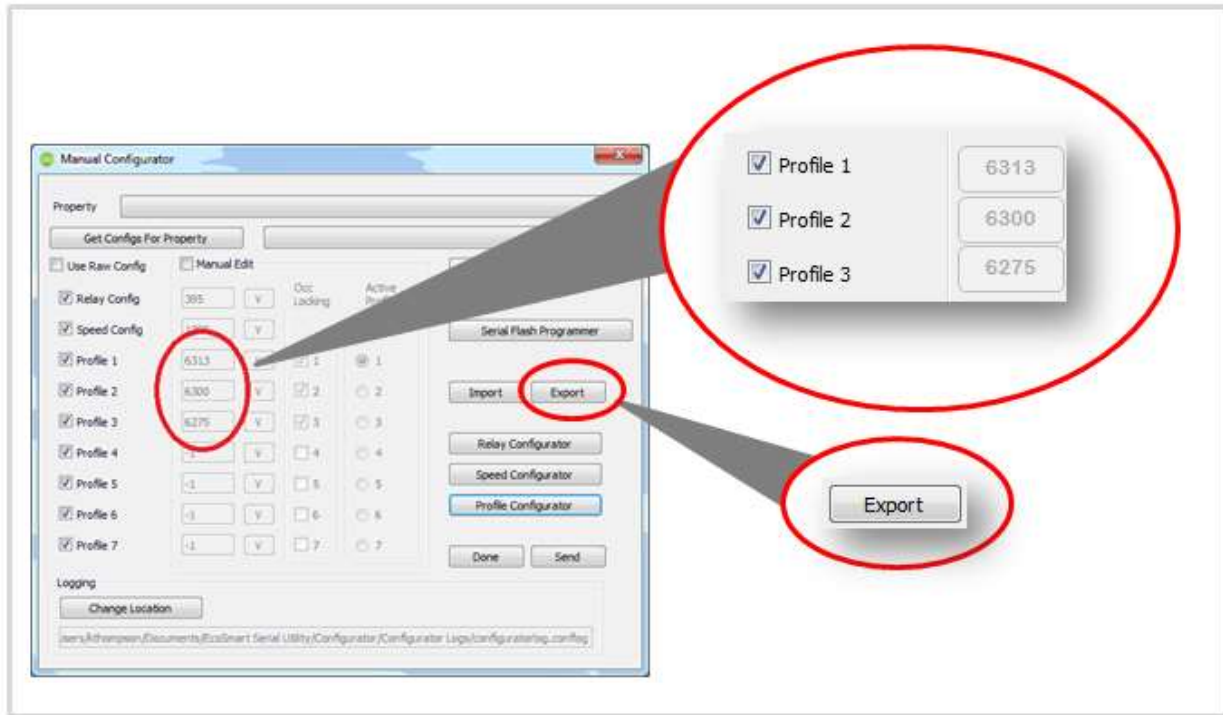

Figure 21
25. In the Manual Configurator dialog box, make note of the Profile codes (Figure 21).